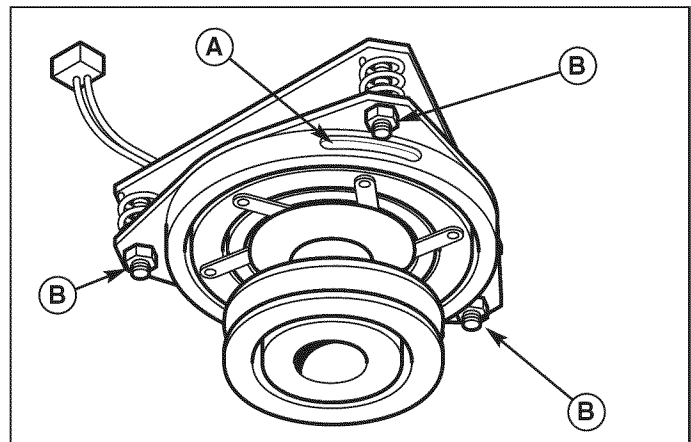

Figure 21. PTO Clutch Adjustment
2. Note the position of the 3 adjustment windows (A, Figure 21) in the side of the brake plate and the nylock adjustment nuts (B).